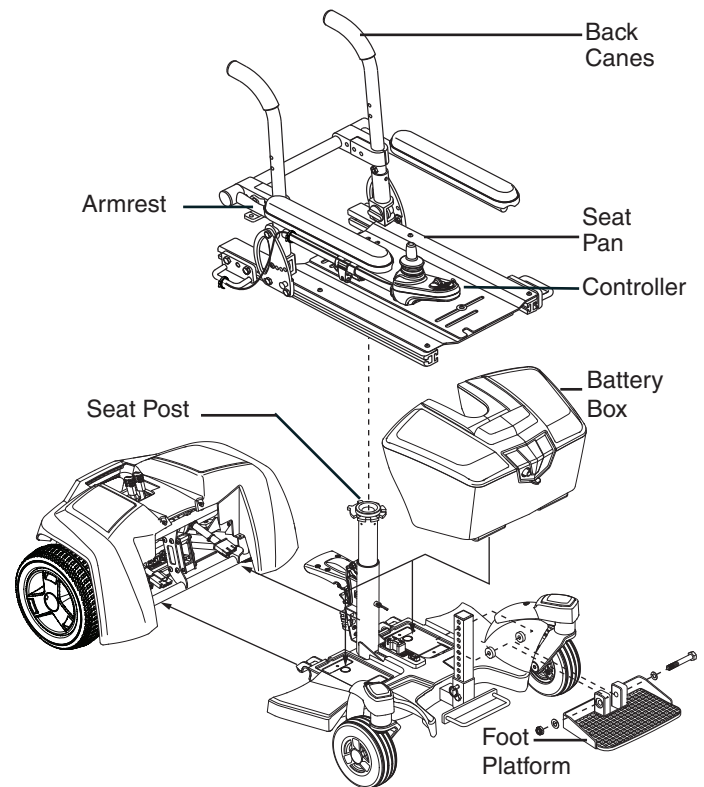

Figure 3. Kozmo Portable Assembly View
Your power chair may require some assembly either before initial use or after transportation. It may also require disassembly to make some comfort adjustments. **Figure 3** details those parts of the power chair that are designed to be disassembled and assembled by an end user or by a qualified caregiver before using the product or making comfort adjustments. There are two hex keys provided for use with controller installation and adjustment and foot platform adjustment.
1. Adjust the seat height if necessary. See “Comfort Adjustments.” Set the seat onto the seat post. **See figure 3.**